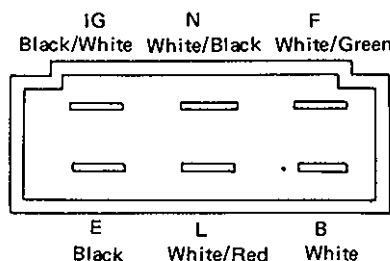

Fig. 10-20
- Open circuit in the line to "N" or "B" terminal of the regulator unit. (Refer to Fig. 10-20)
(2) Continuity test on field coil